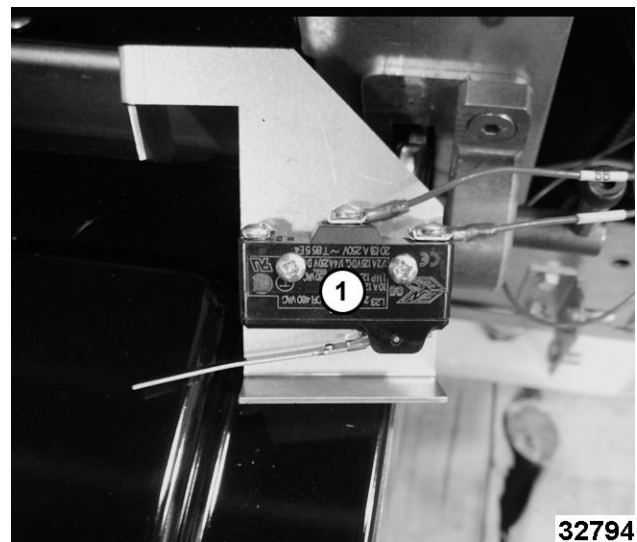

Fig. 96
4. Note and disconnect microswitch (1, Fig. 96) wiring.